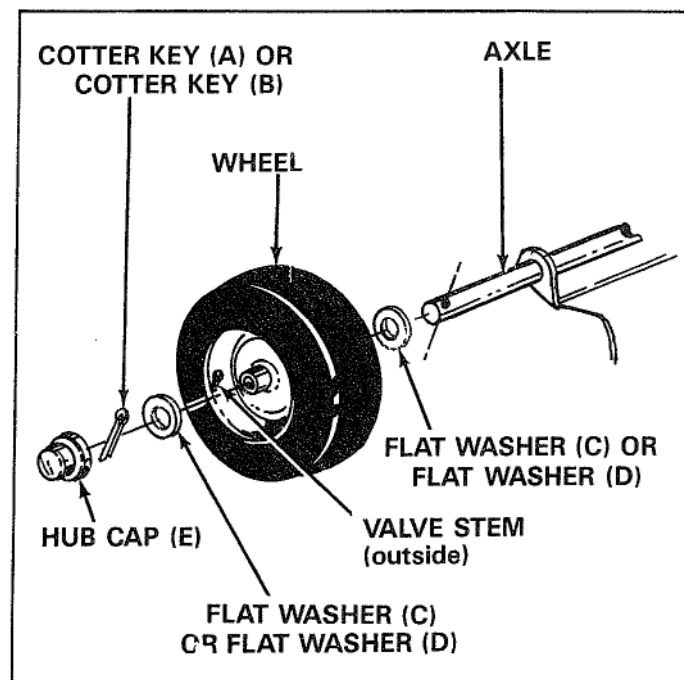

FIGURE 13
Position valve stem to outside when installing wheels on axle. See figure 13.
20. Assemble wheels as described in step 19, using flat washers (C), cotter keys (A) and hub caps (E). See figure 13.